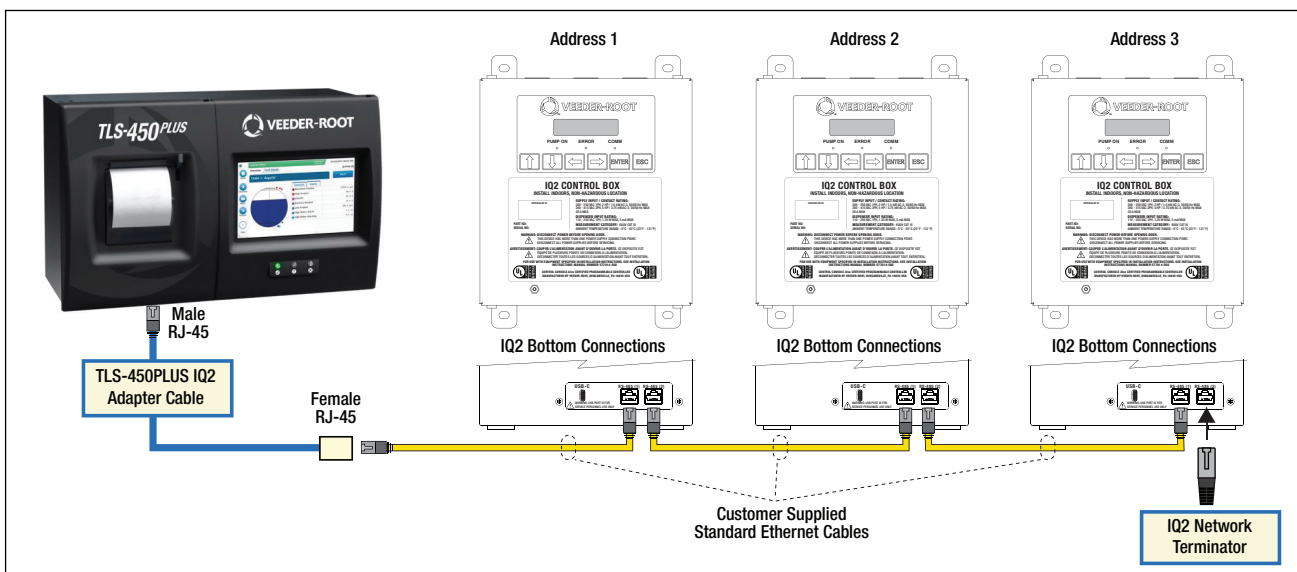

Figure 15. ATG Network Example
2. Connect an Ethernet cable between the IQ2 Adapter Cable and a RS-485 comm port on the first IQ2 (see Figure 15).
4. If additional IQ2s are in the network, follow the connection example shown in Figure 15, making sure to insert the IQ2 Network Terminator in the unused RS-485 comm port of the last IQ2 Controller (Refer to Table 12 on page 62 for IQ2 Network kits).